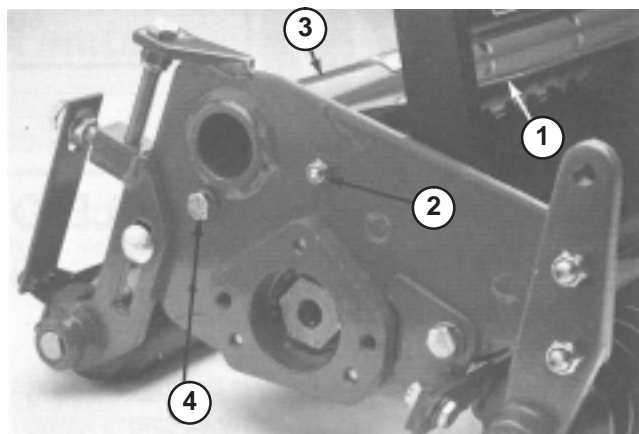

Figure 3
Adjusting Front Grass Shield (Fig. 3)
1. Loosen the (2) capscrews retaining the front grass shield (Fig.3).
2. Pull top of front grass shield to desired height and tighten (2) capscrews.
(Fig. 3)
1. Loosen the capscrew on the right side of the dethatcher reel, located on the pivot of the rear grass shield (Fig. 3).